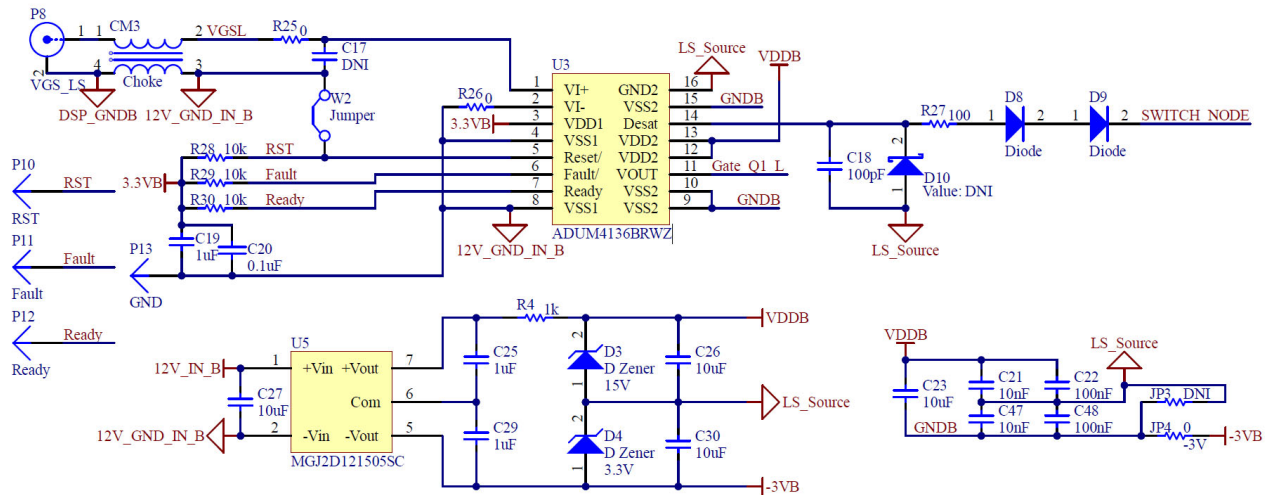

Figure 5. Half-bridge E1B Module DPT EVB Gate Drive Schematic for Low Side Device
For ZVS soft-switching the device snubber has no resistor  $R_s$  in series to avoid  $R_s$  energy loss during ZVS turn-on in each soft-switching cycle. Instead, the damping effect is realized by bus snubber resistor  $R_d$  shown in Figure 5 (b) which is also series connected in the power loop. Wide PCB traces or planes are recommended for snubber RC terminals for better heat dissipation.
Figure 5 shows the gate drive schematic for the low side switch. The maximum gate drive voltage range is 20 V,
limited by U5. D3 and D4 are Zener diodes to define the desired VDD and VEE. For example, as shown in Figure 5, turn-on voltage VDD is 15 V, turn-off voltage VEE is -3.3 V. The remaining voltage of the total 20 V drops on R4. JP3 and JP4 are jumpers that provide option to use 0 V turn-off or negative VEE turn-off. For 0 V turn-off, both JP3 and JP4 are populated with 0  $\Omega$  resistor. For negative VEE turn-off, only JP4 is populated with 0  $\Omega$  resistor. JP3 is left unpopulated. The EVB uses negative VEE turn-off by default.
**Input gate signal:** In Figure 5 the input gate signal should provide a 3.3 V logic signal via the BNC connector. The unswitched switch position must have its gate signal input BNC connector shorted. The first pulse width sets the load current for the test. Inductor current and first gate pulse width follow this equation: